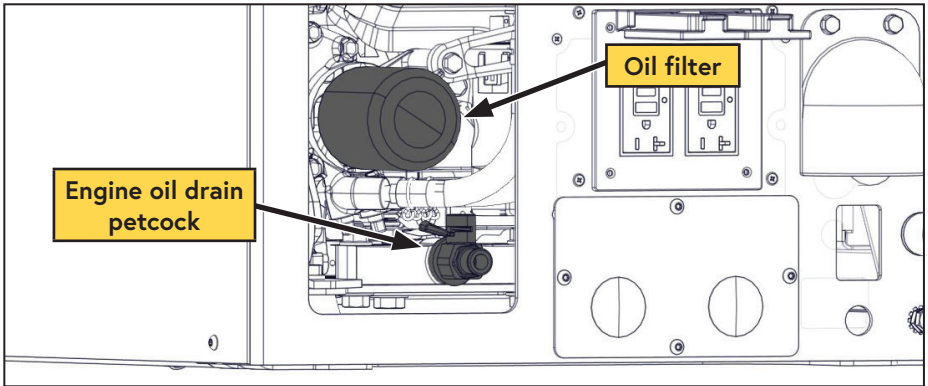

Figure 39 — Oil filter
- ☐ Clean the area around the engine and the oil filter to prevent contamination (Figure 39).